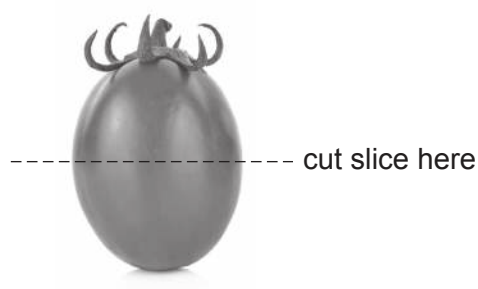

Figure 1.1
- 1.1** Each tomato slice should be prepared by cutting a slice from the middle of a tomato as shown in Figure 1.1. Each slice should be about 5 mm thick. The tomato slices should be freshly prepared on the morning of the exam and presented to candidates on a white tile. More than one slice can be cut from each tomato.